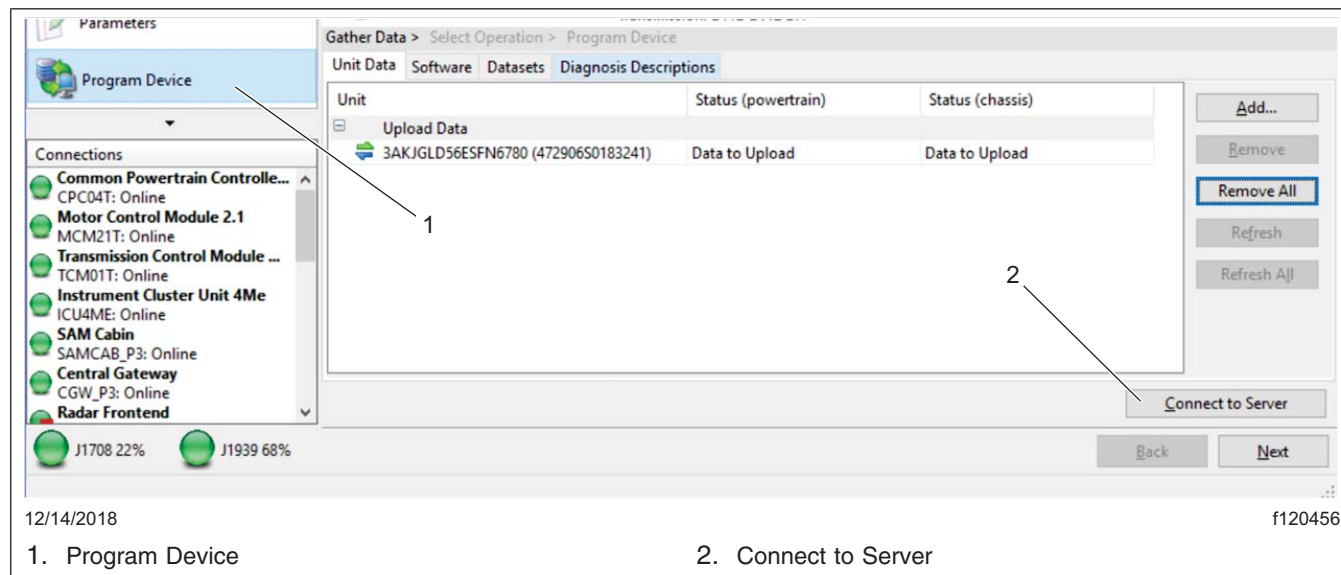

Fig. 4, Uploading Vehicle Parameters
- Select the "Program Device" tab and click "Connect to Server" to upload vehicle parameters to the server. See Fig. 4.